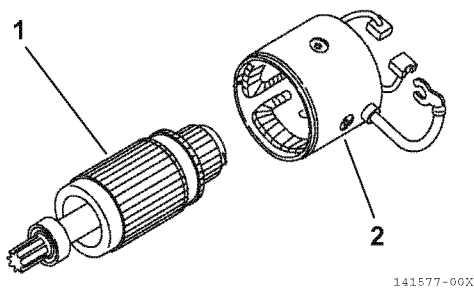

Figure 11-30
7. Carefully install the armature assembly (1, Figure 11-30) into the field coil assembly (2, Figure 11-30).